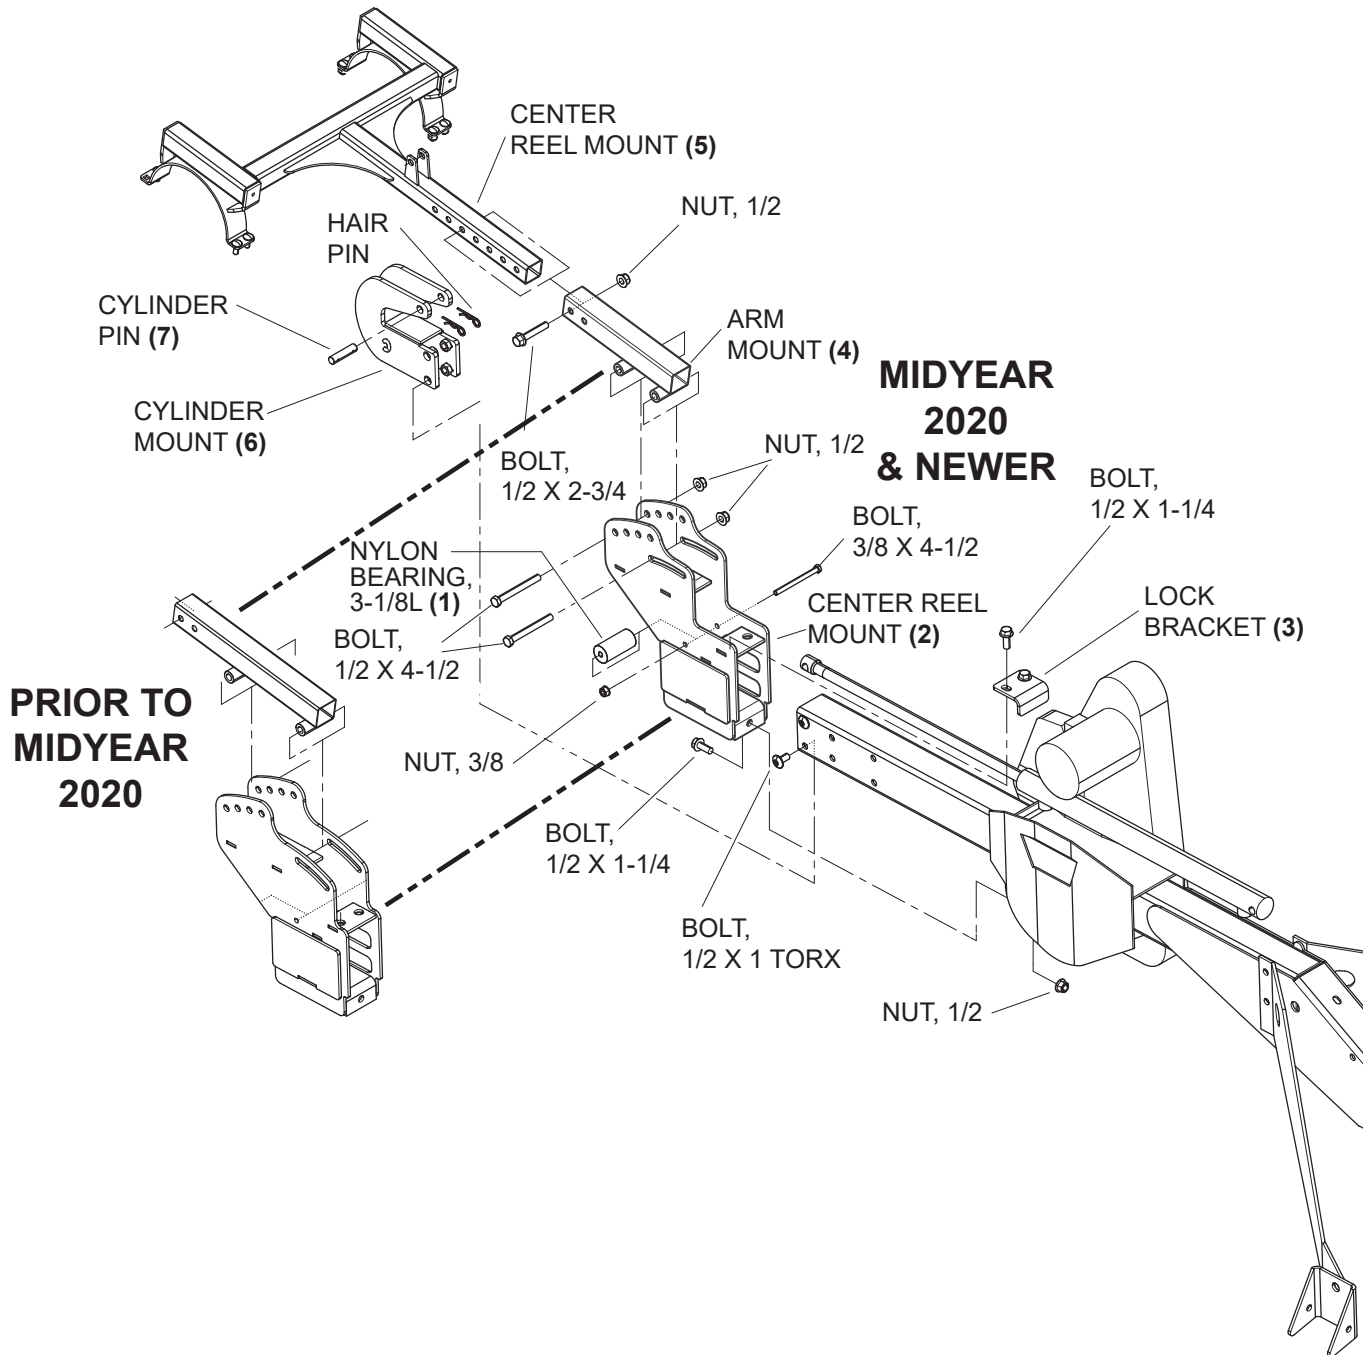

Figure 27: Center reel arm mount assembly (FD1 & FD75 headers)
3. Slide the center reel mount **(2)** onto the OEM reel arm. Attach the bottom of the center reel mount to the OEM reel arm using a 1/2" x 1-1/4" bolt and nut. (Figure 27)